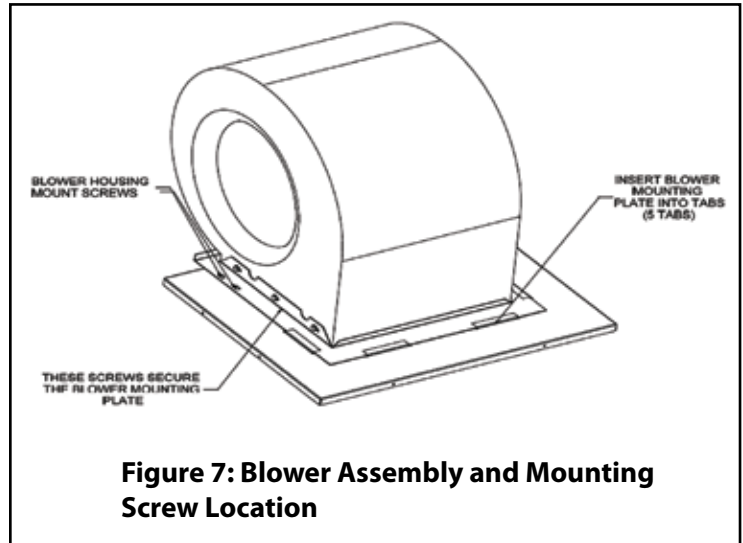

Figure 7: Blower Assembly and Mounting Screw Location
5. Remove the two screws on the right side and the screw on the left side of the blower mounting plate and slide the blower out of the furnace (See Figure 7).